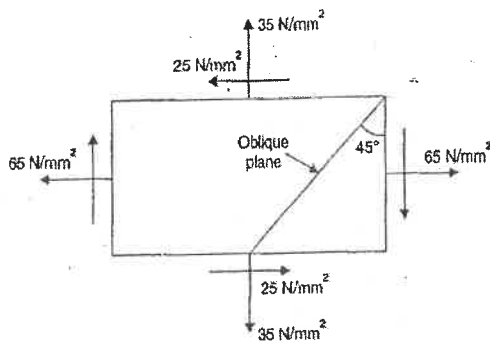

Fig. 07 [For Que 4(A)]
Q.4 (A) A point in a strained material is subjected to stresses shown in Fig.07 .Determine the normal and tangential stresses across the oblique plane shown below (Use Analytical or Graphical method) 05